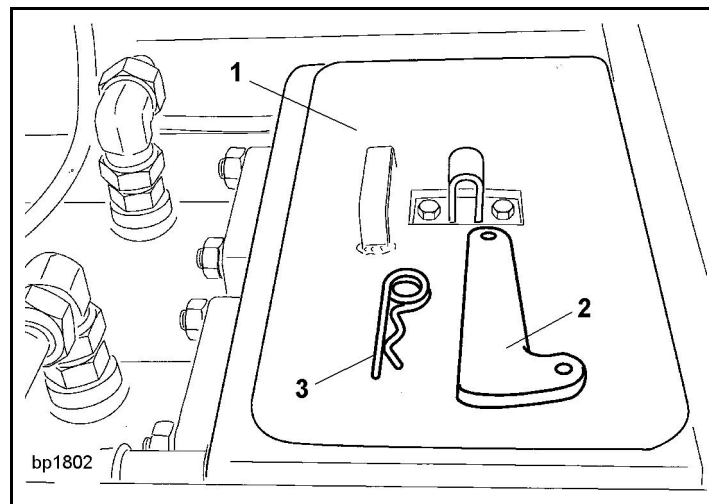

Fig. 32
- Fill the water box (1) (**Fig. 32**) to the top edge of the pumping pistons. If there is a danger of frost, only add water immediately before concreting.